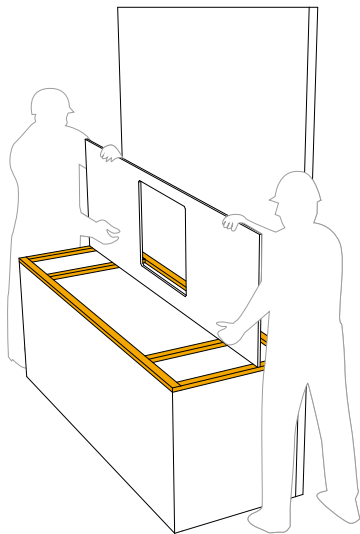

fig. 1
The countertop must be transported in a proper manner up to the place of installation. It must under no circumstances be walked over (even when still packaged), and it must be unpacked and handled in a vertical position. It is vital to make sure that the support base on which the countertop will be fitted is structurally solid and perfectly flat (fig. 1). We also recommend paying particular attention to the gluing phase, applying the adhesive evenly over the entire support surface to allow the slab to adhere perfectly. In this regard, it should be noted that in the short space of time after installation, factors such as the settling and weight of the furniture supporting the slab(s), heat and humidity, may cause levelling to change slightly. We therefore suggest a post-sales inspection a few months after installation to check, and if necessary adjust, the levelling of the countertop.
- Position the countertop vertically, leaning it against the wall of the kitchen units (fig. 1);
- Apply silicon evenly to the supporting crosspieces to ensure that the slab adheres perfectly (fig. 1);